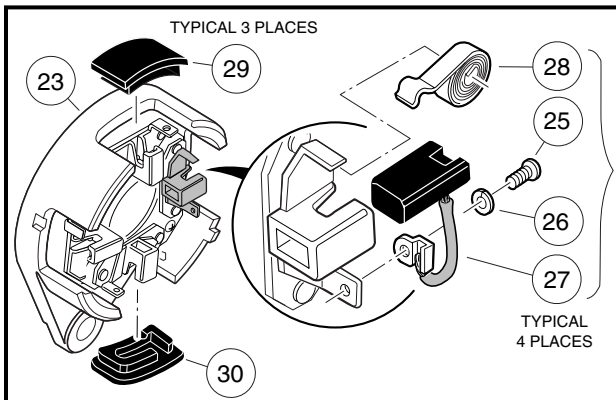
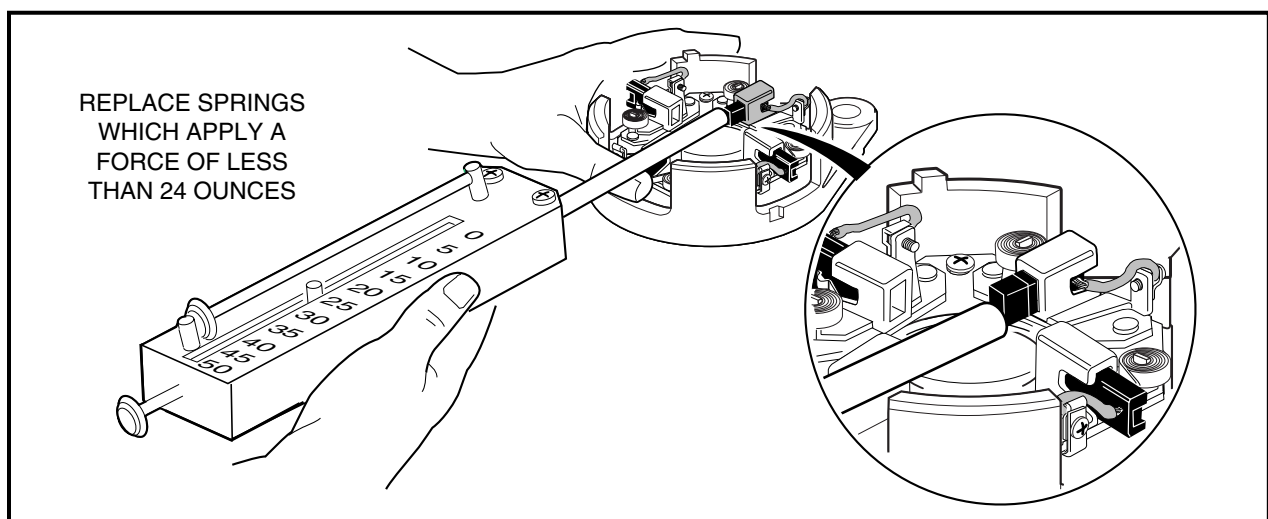

FIGURE 12-39
FIGURE 12-40
2. Remove brush covers (29 and 30), screws (25) and lockwashers (26), brush springs (28), and brushes (27) (**Figure 12-39**) See Note below.
2. Install the four brushes (27) into their holders and insert the four brush springs (28) (**Figure 12-39**). Using a spring scale, test brush spring tension. If the any spring has a tension less than 24 ounces, replace all four springs (**Figure 12-40**) See **Caution** above.
1. Connect the brush wires to the holders using the four lockwashers (26) and four screws (25), making sure the crossover leads are connected also. Apply 26-35 in.lbs. (2.9/3.9 N-m) of torque to the screws (**Figure 12-39**).
4. Install the brushes into the holders. Place springs into the notches in the brushes. Install the brush cover (30) that has the drain hole in it next to the A2 terminal. Install the remaining three brush covers (29) in the openings in the commutator end cover (23) (**Figure 12-39, Page 108**).